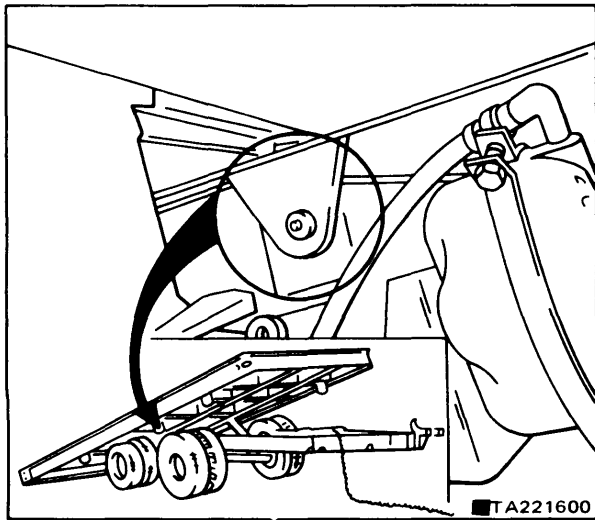

FIGURE 4-22. HP PLATFORM PIN AND GREASE ZERK.
4-88. Grease every 2,000 miles or 1 month at (2) zerk as shown in figure 4-22. Tighten 7/16 inch (11.1 mm) capscrews to 30 ft.-lbs. (4.15 kg/cm2) every 2,000 miles. Examine pins for wear after 25,000 miles.